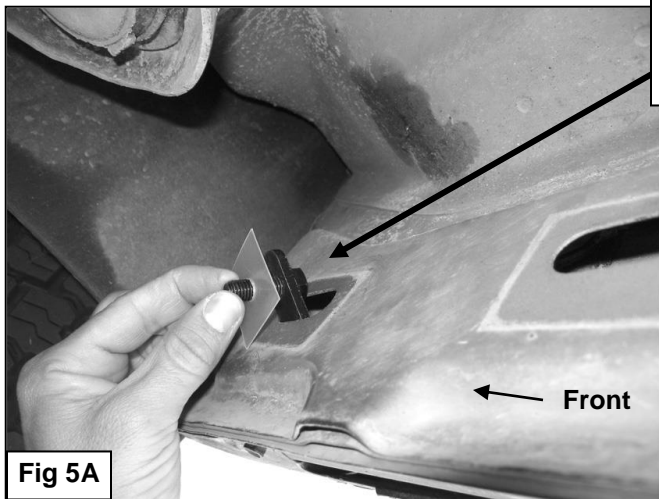
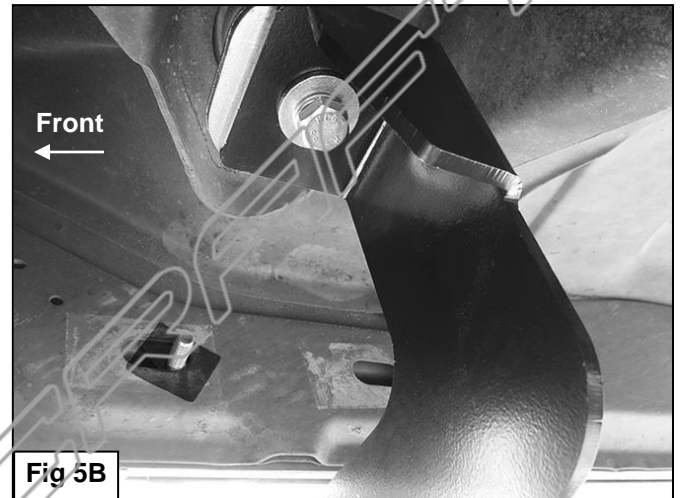

Fig 5A
Fig 5B
5. Remove the tape covering the factory hole in the back side of the lower body panel near the Mounting Bracket, **(Figure 1 & 3)**. Thread (1) Plastic Retainer part way onto (1) 10mm x 35mm Bolt Plate, **(Figure 4)**. Insert the Bolt Plate into the factory hole on the body panel, **(Figure 5A)**. Hold the Bolt Plate in place with one hand and continue to thread the Plastic Retainer down against the sheet metal to hold the Bolt Plate in place, **(Figure 5B)**. **IMPORTANT:** The Plastic Retainer is designed to prevent the Bolt Plate from falling into the body panel and to aid in Bracket installation.